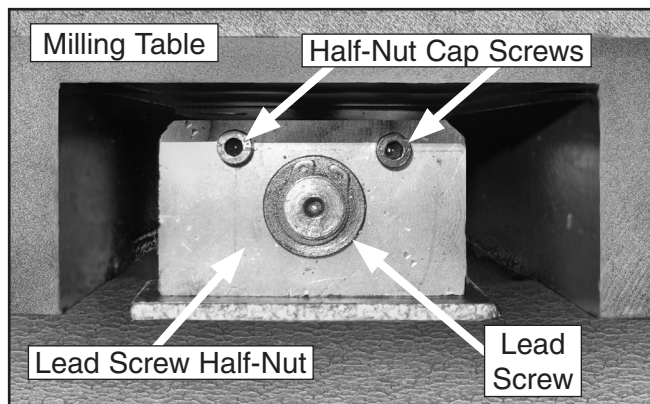

Figure 5. X-axis leadscrew backlash adjustment.
4. Locate the X-axis lead screw half-nut (see **Figure 5**).